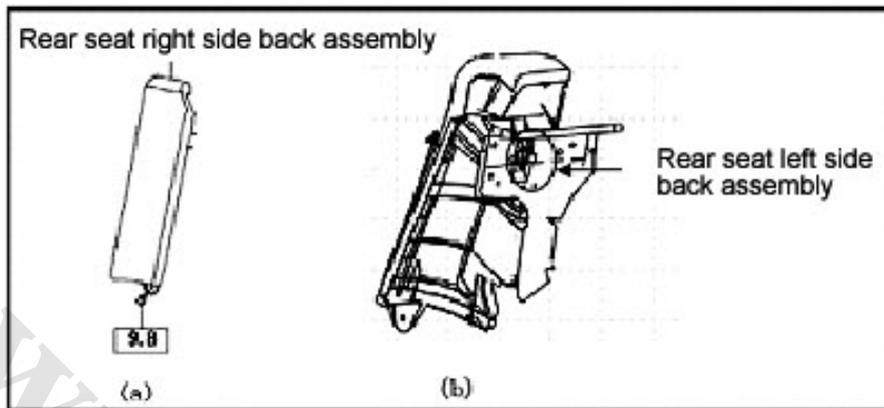

Fig. 7-18
(2) Remove the left side back of the left rear seat.
- ① Remove the bolts.
- ② Hold the side back assembly upwardly along the direction of the arrowhead so as to separate the armrest pothook with the body, as shown in Fig. 7-18.